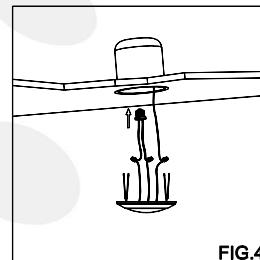
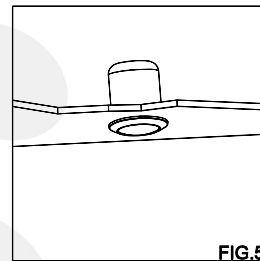
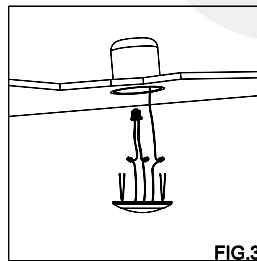
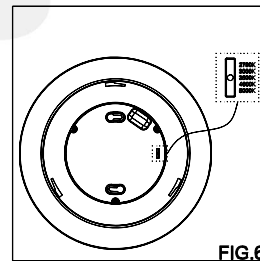

FIG.4
FIG.5
FIG.3
FIG.6
Push the fixture back to the ceiling and make sure the fixture secured in the bracket of junction box. (FIG.3) Complete the installation by push the fixture into the ceiling. (FIG.4) Once the fixture is mounted on the wall, caulk the space between the wall and the Shell. (FIG. 5)
- Install the Spring Hooks as FIG.5 (For 5 Inch Can) or FIG.6 (For 6 Inch Can) by using M3*8 self tapping screws.
- Match the Male and Female Plugs and connect them firmly. (FIG. 3)
- If using TORSION SPRINGS, squeeze both TORSION SPRING arms together and insert into the TORSION SPRING SLOTS (or place spring on mounting bracket RECEIVER BRACKETS) of the CAN.(FIG. 4)
- Tuck all wires into the CAN and carefully push the RETRO-FIT TRIM into CAN. (NOTE: To provide enough room in shallow cans, carefully position SOCKET ADAPTER and SOCKET adjacent to the long side of the LED DRIVER prior to inserting the RETROFIT TRIM into the CAN.) (FIG. 4)